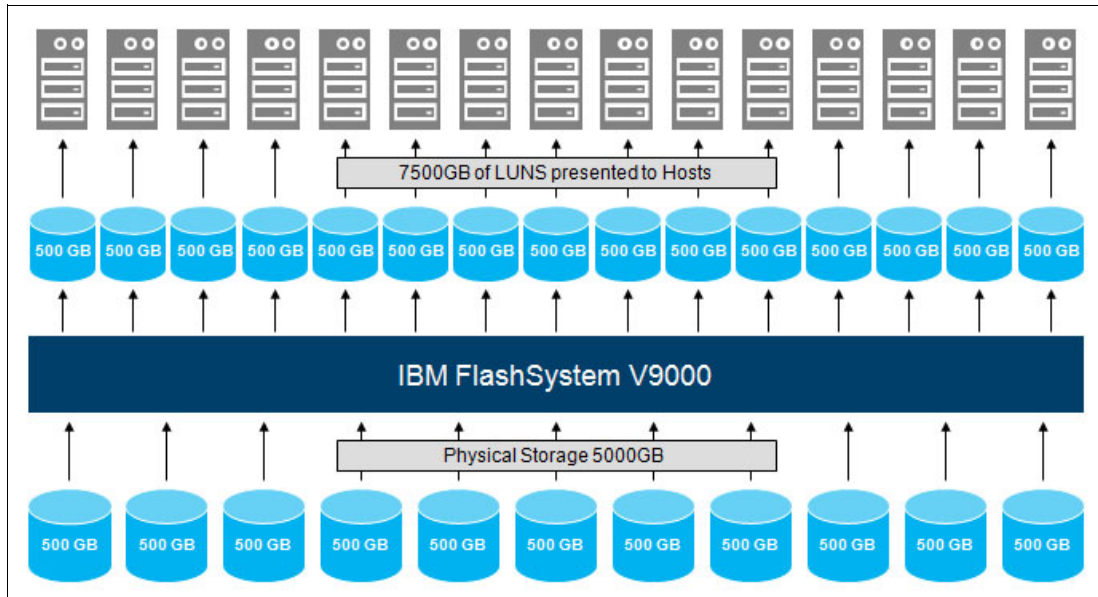

Figure 3-3 Concept of thin provisioning
An example of thin provisioning is when a storage system contains 5000 gigabytes (GB) of usable storage capacity, but the storage administrator mapped volumes of 500 GB each to 15 hosts. In this example, the storage administrator makes 7500 GB of storage space visible to the hosts, even though the storage system has only 5000 GB of usable space, as shown in Figure 3-3 on page 103. In this case, all 15 hosts cannot immediately use all 500 GB that are provisioned to them. The storage administrator must monitor the system and add storage as needed.